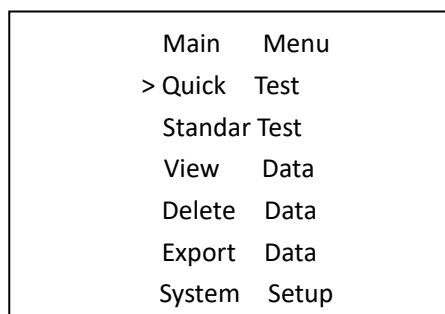

Figure 2-2 Main menu interface
2. Press **Enter** to enter the main menu interface, as shown in Figure 2-2.